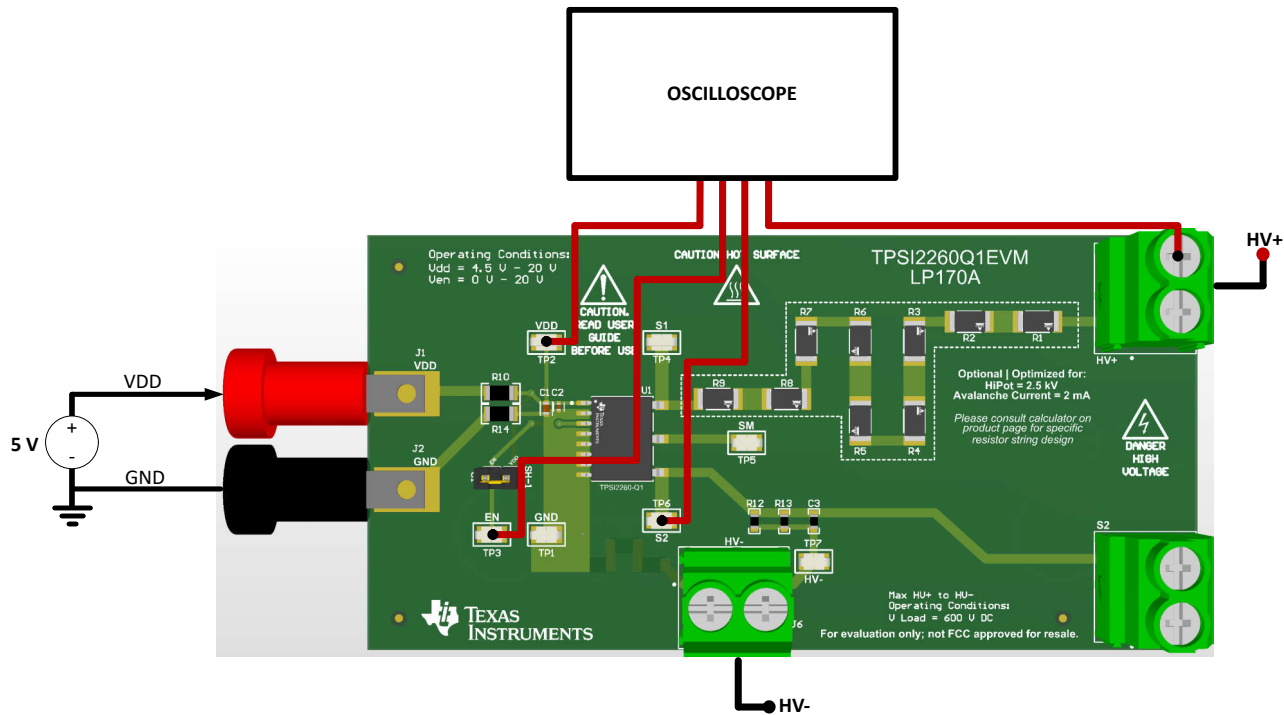

Figure 3-1. TPSI2260Q1EVM Test Setup
**Important Note:** The setup shown in Figure 3-1 assumes that high and low voltage grounds (GND & HV-) are shorted to allow for safe oscilloscope capture. In this configuration, the isolation barrier in the TPSI2260-Q1 device is bypassed. To evaluate the device with the isolation barrier, use differential oscilloscope probes and keep high and low voltage grounds separated.